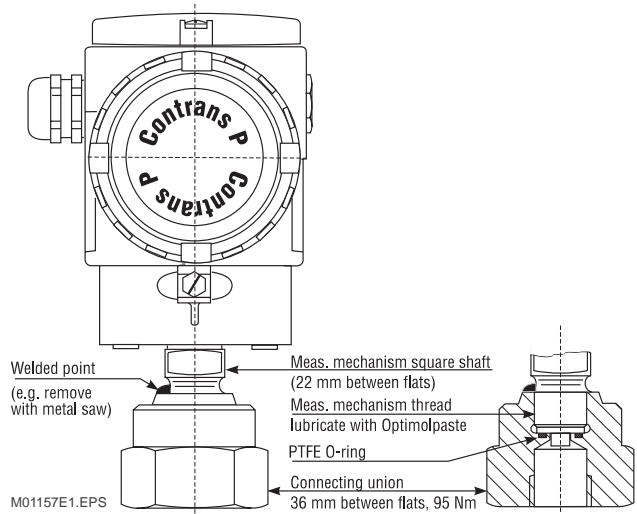

Fig. 19. AMD 200 having a 600 bar range and 1/2 - 14 NPT female thread process connection
1. With the AMD 200 having a **600 bar** range and a **1/2-14 NPT female thread** process connection, the **welded point** is to be removed and the **connecting union** (36mm across flats) loosened by counter holding on the measuring mechanism square shaft (22 mm across flats) (Fig. 19). Unscrew the connecting union from the measuring mechanism.
13. With the **AMD 200** having a **600bar** range and a **1/2-14 NPT female thread** process connection, renew the O-ring between the measuring mechanism and the connecting union (Spare Parts Data Sheet 15-9.85 EN). Insert the new O-ring into the inlaid groove of the connecting union. Lubricate the **measuring mechanism threading** (1/2 A) with Optimolpaste LN AU 598 and tighten the **connecting union** with a tightening torque $M_A = 95 \text{ Nm}$ by counter holding on the measuring mechanism square shaft (Fig. 19).